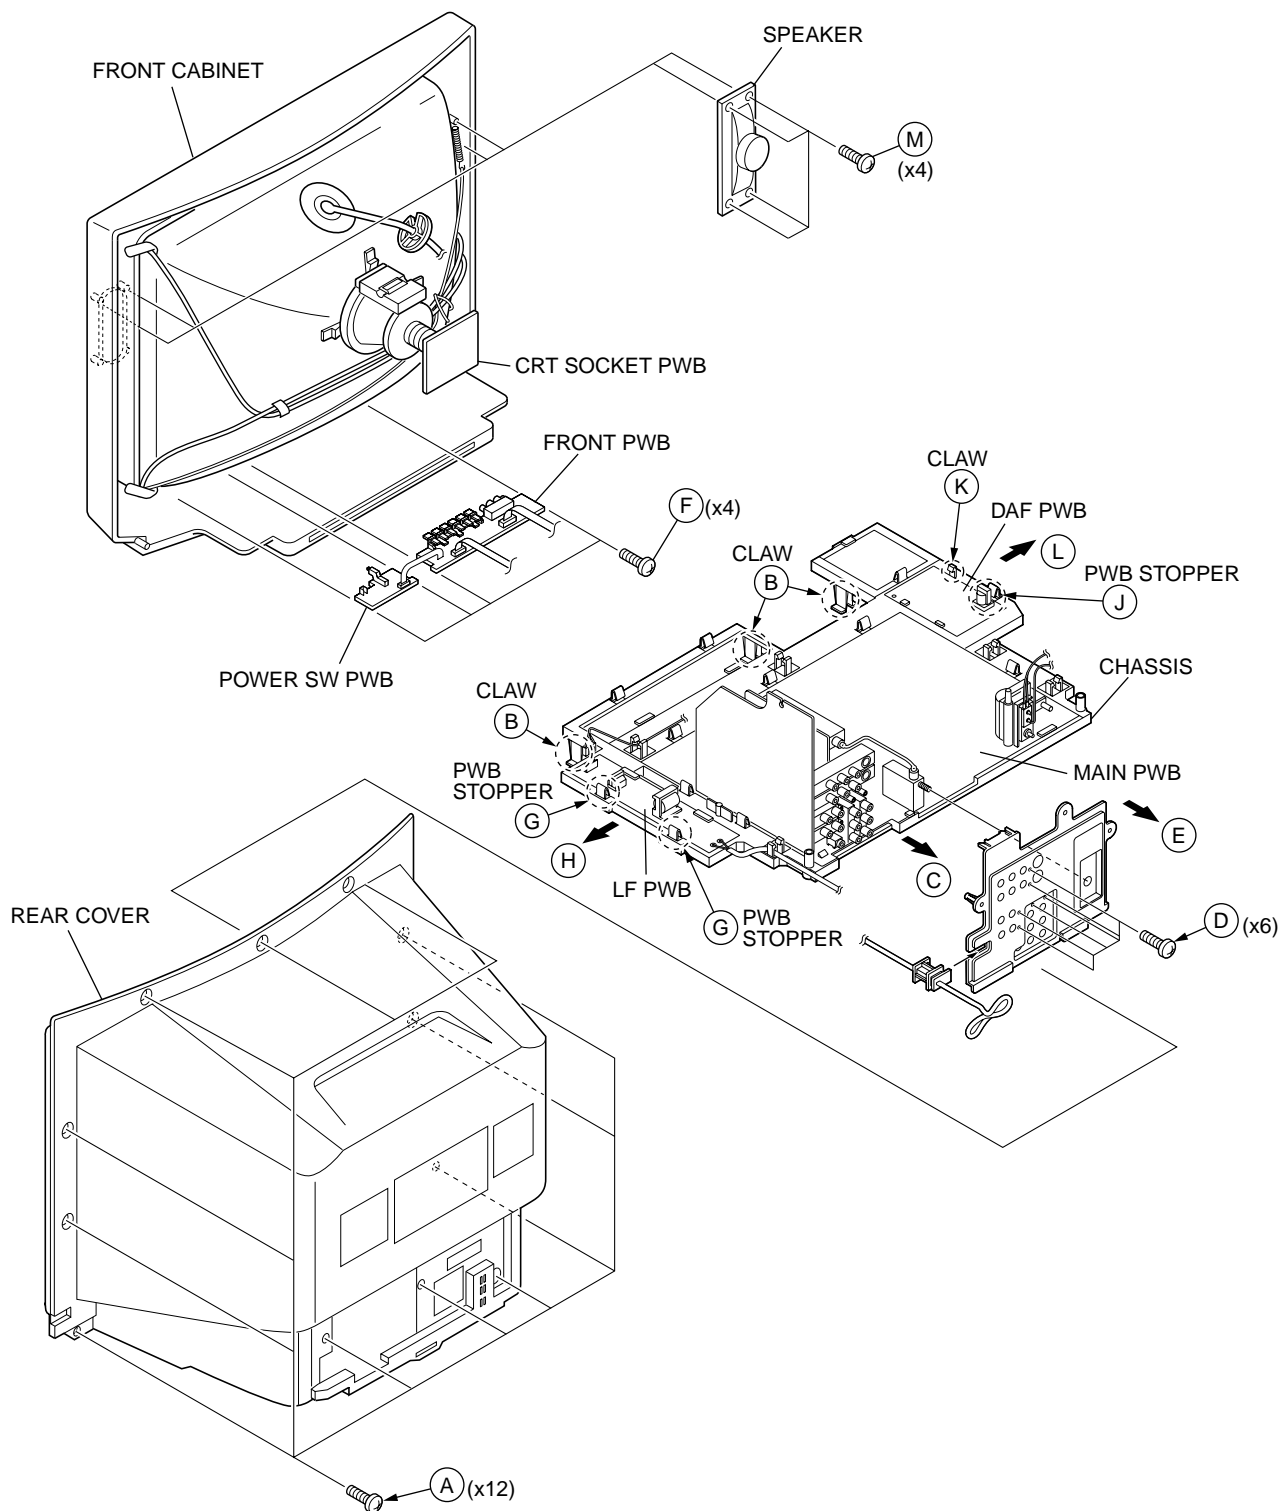

Fig.1
2. Remove the 12 screws marked (A) as shown in Fig.1.
1. Slightly raise the both sides of the chassis by hand and remove the 3 claws marked (B) under the chassis from the front cabinet as shown in Fig.1.
2. Withdraw the chassis backward along the rail in the arrow direction marked (C) as shown in Fig.1.
1. Remove the 6 screws marked (D) as shown in Fig.1.
2. When you pull out the TERMINAL BOARD in the direction of arrow marked (E) as shown in Fig.1, it can be removed.
1. Remove the 4 screws marked (F) as shown in Fig.1.
1. Lift the left side of the LF PWB while pressing the 2 PWB stoppers marked (G) in the arrow direction marked (H) as shown in Fig.1.
1. Lift the right side of the DAF PWB while pressing the PWB stopper marked (J) and claw marked (K) in the arrow direction marked (L) as shown in Fig.1.
1. Remove the 4 screws marked (M) as shown in Fig.1.
<p>(4) System constant check and setting</p> <ol style="list-style-type: none"> 1) Press SLEEP TIMER key and, while the indication of "SLEEP TIMER 0 MIN." is being displayed, press DISPLAY key and VIDEO STATUS key on the remote control unit simultaneously. 2) The SERVICE MENU screen of Fig.1 is displayed. 3) While the SERVICE MENU is displayed, again simultaneously press the DISPLAY and VIDEO STATUS keys to display the Fig.2 SYSTEM CONSTANT screen. 4) Refer to the SYSTEM CONSTANT table and check the setting items. Where these differ, select the setting item with the MENU UP/DOWN key and adjust the setting with the MENU LEFT/RIGHT keys. (The letters of the selected item are displayed in yellow.) 5) After adjusting, release the MENU LEFT/RIGHT key to store the setting value. 6) Press the EXIT key twice to return the normal screen. 	 <p style="text-align: center;">Fig.1</p>
<p>(7) SERVICE MENU setting Verify what to set in the SERVICE MENU, and set whatever is necessary.(Fig.1) Refer to the SERVICE ADJUSTMENT for setting.</p>